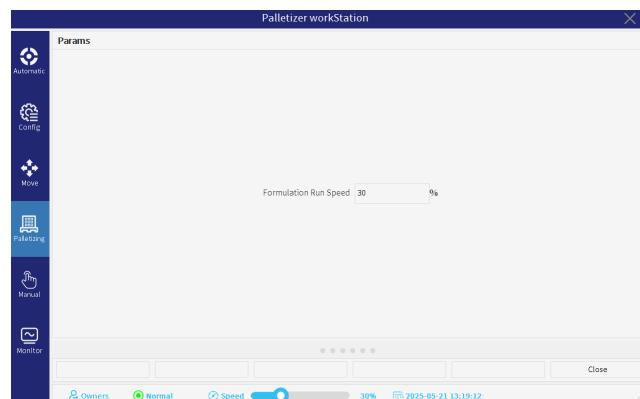

Figure 2-43 : Formulation Parameters
- **Formulation Parameters:** to set the running speed of the current formulation in **Figure 2-43**, with a range of 2-100%.